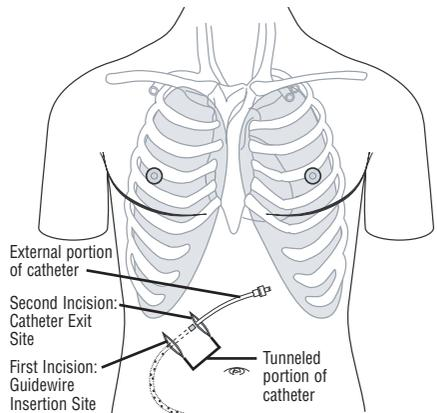

Figure 3
Proper medical and surgical procedures are the responsibility of the physician. The appropriateness of any procedure must be based upon the needs of the patient. **Figure 3** illustrates the placement of the PeritX™ Peritoneal Catheter, as described in the following procedure.
12. Make a second 1-2 cm incision 5-8 cm from the guidewire insertion site. This incision will be the catheter exit site. Consider the patient's ease of access in determining its location. **(Figure 3)**
13. The fenestrated end of the catheter may be cut shorter depending on an individual patient's anatomy. If desired, cut a portion of the fenestrated end of the catheter by using a scalpel to make a straight cut between fenestrations. Leave at least one (1) fenestration on the catheter.